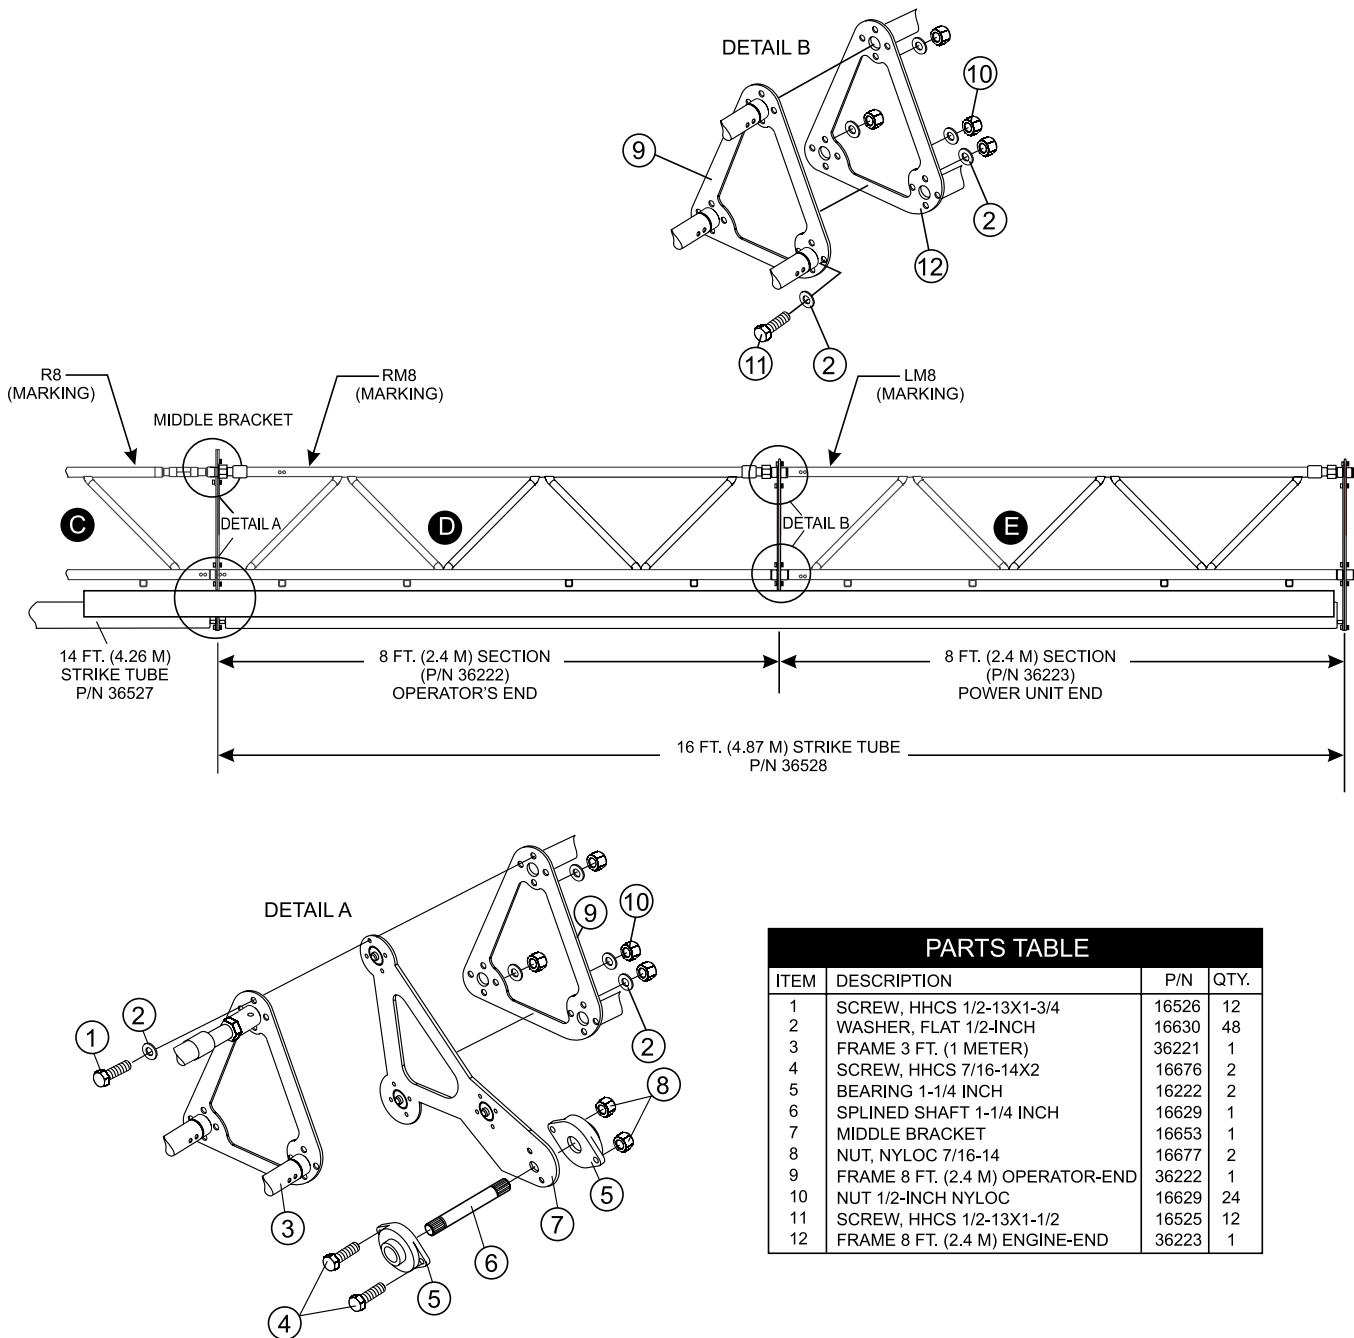

Figure 17. Middle Truss Sections (16 FT./4.87 Meters)
## Task 2: Middle Truss Sections (Reference Figure 17)
Locate middle bracket P/N 16653. Place middle bracket between 3 ft. truss section (**C**) and the 8 ft. truss section (**D**) as outlined in Figure 17.
2. Secure strike tube bearing with 7/16-14x2 HHSC screws (2) and 7/16 nyloc nuts (2). Torque bearing support nuts to 75 ft.-lbs. (102 N·m).
3. Insert splined shaft into middle mounting bracket as shown in Figure 17.